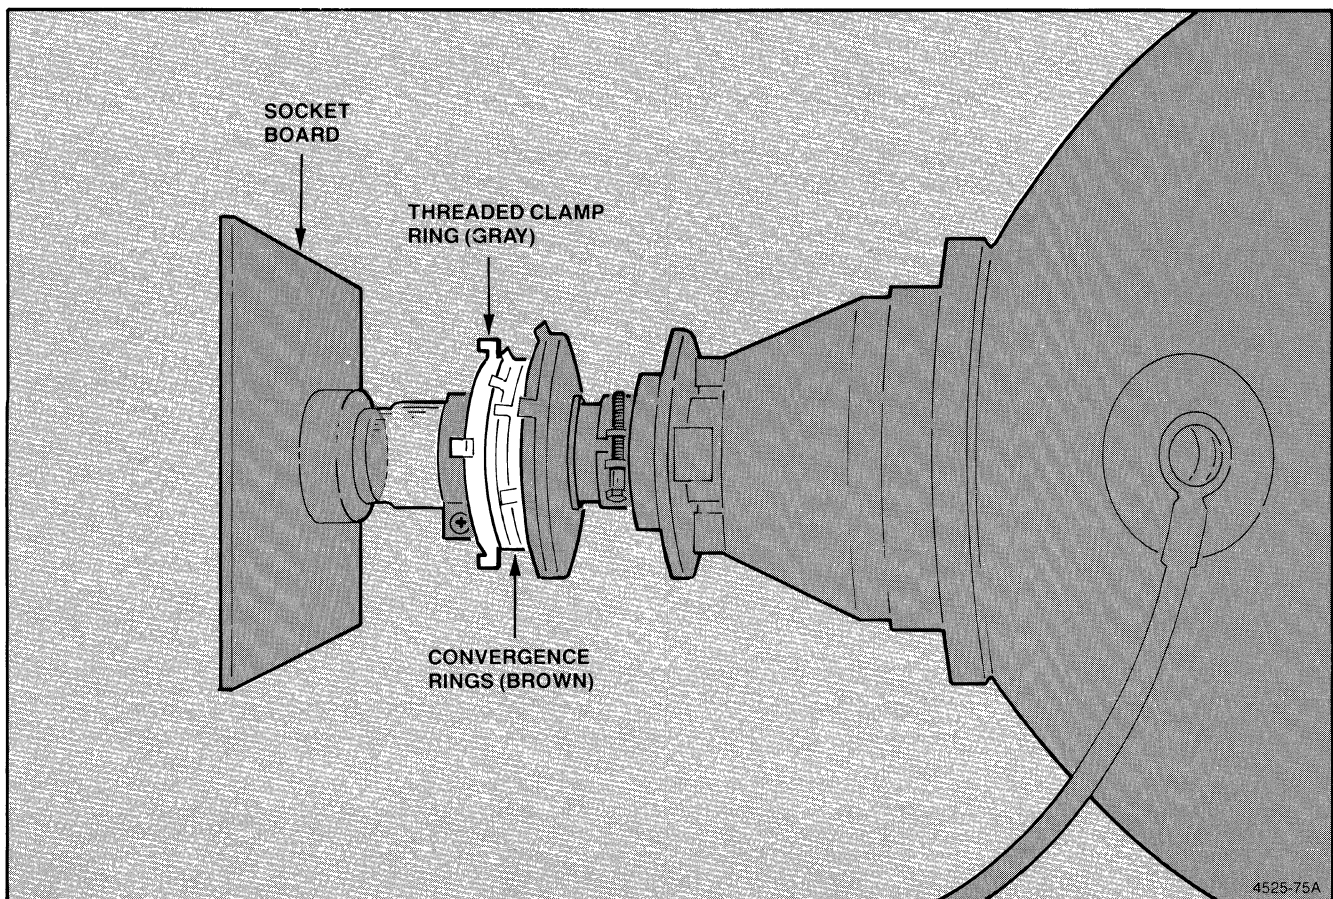

Figure 5-14. Convergence Rings and Threaded Clamp Ring.
5. Use a sharp knife to remove paint from the purity and convergence rings, then loosen the threaded clamp ring (refer to Figure 5-14). This allows you to rotate the rings.
Scrape off the paint that fastens the rings to each other. Then loosen the threaded gray clamp-ring (Figure 5-14) to allow smooth movement of the convergence rings.
5. Match the red and blue images at the center of the screen by rotating the four-pole magnet (the center pair of convergence rings, on the neck of the crt). Refer back to Figure 5-14.